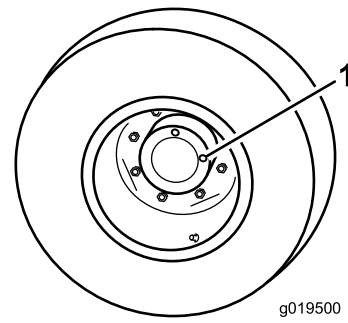

Figure 72
1. With the machine on a level surface, position the wheel so that 1 check plug is at the 12 o'clock position and the other is at the 3 o'clock position (Figure 72).
2. Remove the plug at the 3 o'clock position (Figure 72).